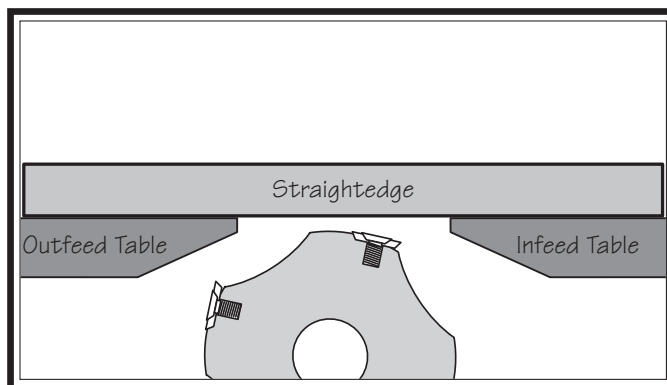

Figure 48. Infeed and outfeed tables set evenly.
6. Remove (4) screw covers on infeed table, and loosen set screws underneath two turns.
7. Place straightedge halfway across infeed table and halfway over outfeed table, then adjust infeed table even with outfeed table, as shown in **Figure 48**.